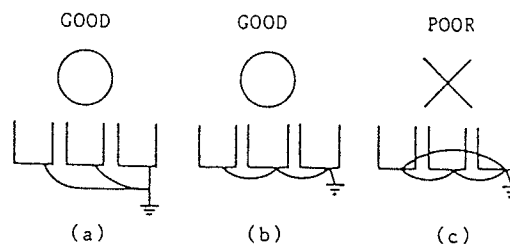

Fig. 4 Grounding of Three VS-646HS3 Units
- (1) Ground resistance should be 100Ω or less.
- (2) Never ground VS-646HS3 in common with welding machines, motors, and other large-current electrical equipment, or ground pole. Run the ground lead in a separate conduit from leads for large-current electrical equipment.
- (3) Use the ground leads which comply with AWG standards and make the length as short as possible.
- (4) Where several VS-646HS3 units are used side by side, all the units should preferably be grounded directly to the ground poles. However, connecting all the ground terminals of VS-646HS3 in parallel, and ground only one of VS-646HS3 to the ground pole is also permissible (Fig. 4). However, do not form a loop with the ground leads.